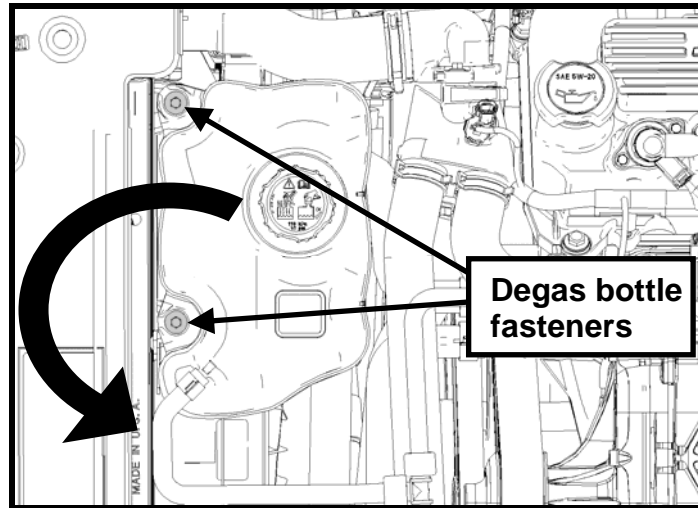

Fig. 12
**STEP 12:** Remove the two degas bottle fasteners. Make sure the cap is tightly secured. Rotate the degas bottle out of the way to gain additional access to the FEAD belt tensioner (See Fig. 12).